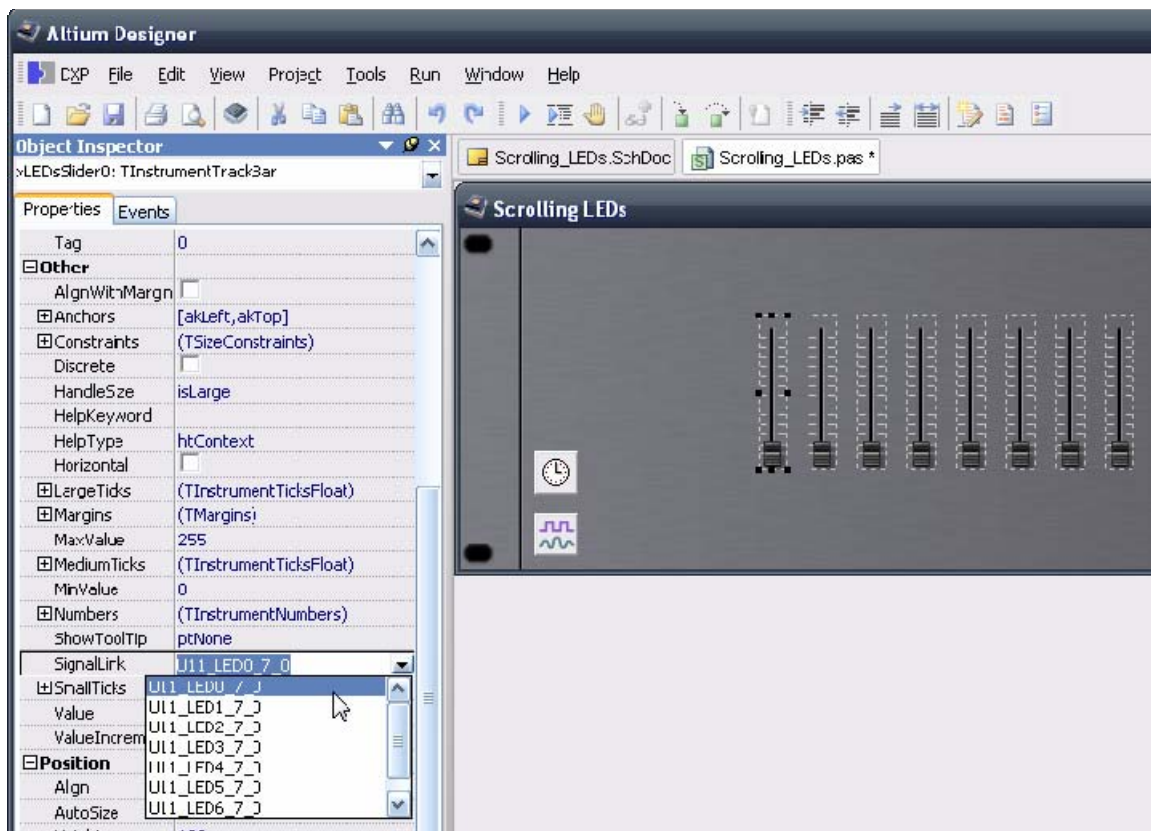

Figure 19. Link each TrackBar slider to the virtual signal.
53. Continue to **Paste** in TrackBar sliders, repositioning each one, until there is a total of eight arranged in a row, as shown in Figure 19.
56. The next step is to connect the IO signals of the DIGITAL\_IO instrument through to the variables in your code. This is done using a TSignalLinkManager. Locate the  **TSignalLinkManager** control in the Instrument Controls section of the Tool Palette panel. Click once on the control, then again on the form to place the control onto the form. Since this control will not be visible it can be placed anywhere on the form, typically it is placed to one side, as shown in Figure 19.
60. The last step to bind each TrackBar slider to the appropriate signals in the design. To do this, click to select the first TrackBar, then in the Object Inspector locate the **SignalLink** property and set it to the first of the Virtual Signals, namely U11\_LED0\_7\_0, as shown in Figure 19.